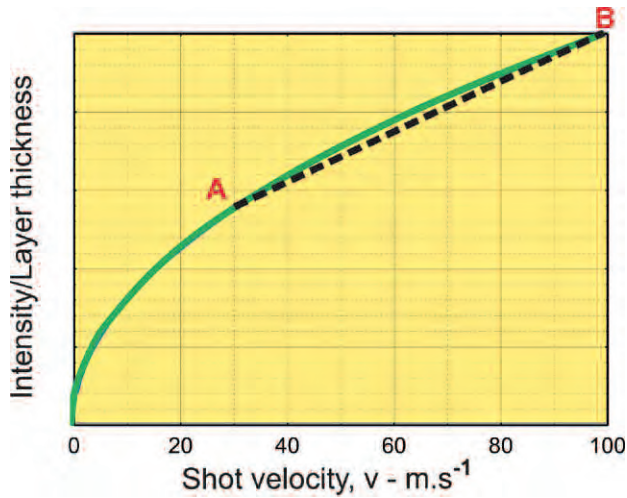

Fig.5. Variation of peening intensity and layer thickness with velocity of shot.
Shot velocity is the major factor used by shot peeners to control peening intensity/layer depth. The depth of a fully-developed peened layer is indicated by equation (1) as being proportional to the square root of the shot velocity. This variation is illustrated in fig.5 (page 28).